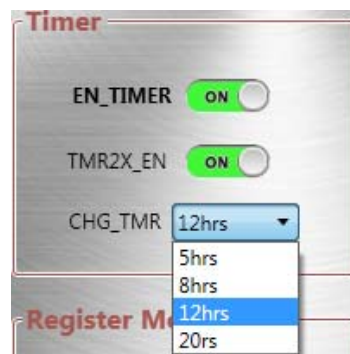

Figure 20: Charge Timer Setting
18. Set charge timer (see Figure 20). Its range is 5hrs to 20hrs, and the default value is 12hrs.
The integrated charge timer provides backup protection to prevent a damaged battery from being charged after a certain time. The MP2731 can disable the timer function by switching off the EN_TIMER button (see Figure 20).